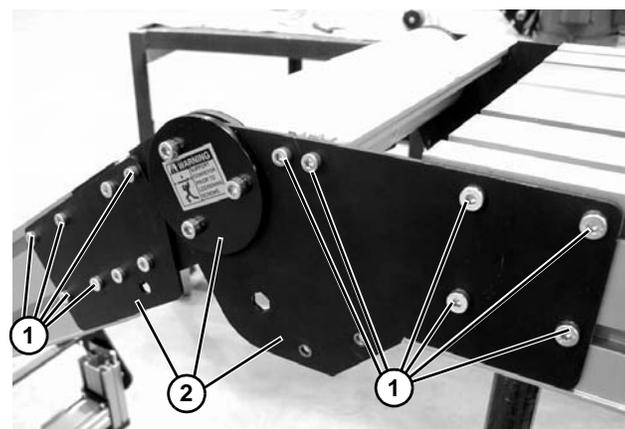

Figure 75
- On one side of knuckle, remove screws (**Figure 75, item 1**) and knuckle plate assembly (**Figure 75, item 1**).